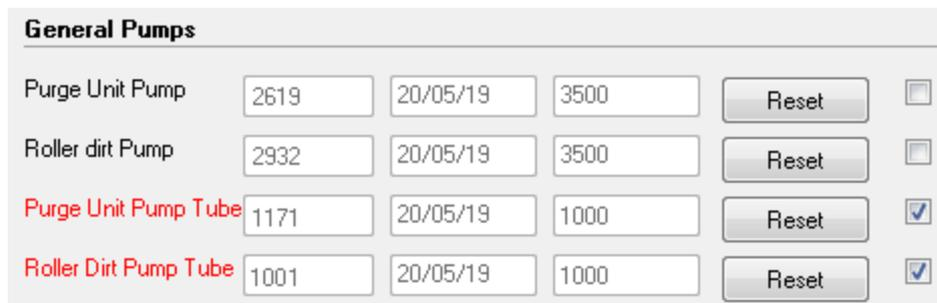

Figure 4-130 Pump Maintenance Counters
21. Open the *Maintenance Counters* screen, scroll down to the *General Pumps* section, and click **Reset** for the relevant counter(s) (see Figure 4-130 on page 4-89).